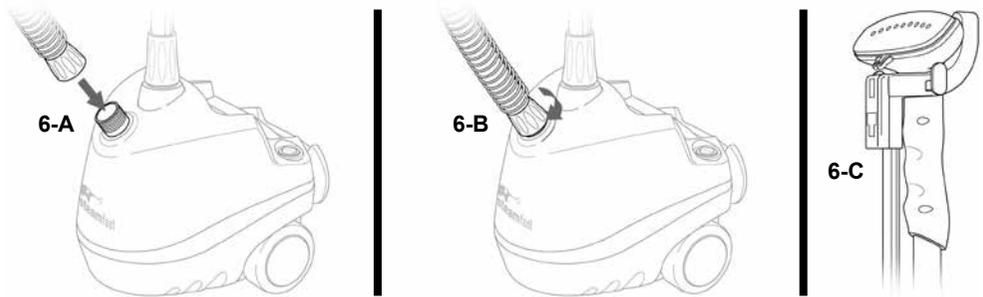

FIGURE 6
1. Place end of Hose onto threaded Hose Base (FIGURE 6-A).
2. Rotate coupling in clockwise direction until Hose is tightly secured onto Hose Base (FIGURE 6-B). Hand tighten only. Do not over-tighten.
3. Hang Steam Nozzle on specially designed Steam Nozzle Cradle (FIGURE 6-C).